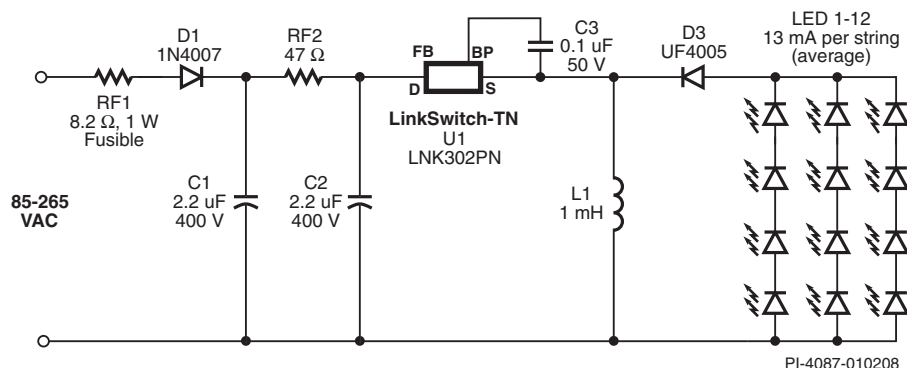

Figure 1. A 0.5 W, 12.9 V, 40 mA Constant Current LED Driver, Using a Non-Isolated Buck-Boost Topology.
Figure 1 shows a simple buck-boost converter, operating in open loop with no output feedback, being used as a constant current LED driver. The circuit relies on the internal current limiting function of the LNK302PN, which ensures constant current is supplied to the load. Typical uses include night-lights, neon sign replacements, emergency exit signs or any application utilizing LEDs for lighting.
- The circuit shown in Figure 1 has a total output current tolerance of $\pm 12\%$ (including ΔT of 50 °C).
- The circuit shown in Figure 1 uses a low cost resistive pi (π) filter for differential mode filtering. For output power greater than 0.5 W, an inductive pi filter is recommended.
- A second rectifier diode may be placed in the return leg of the AC input (not used in Figure 1). This may give improved EMI performance and better surge withstand capability.